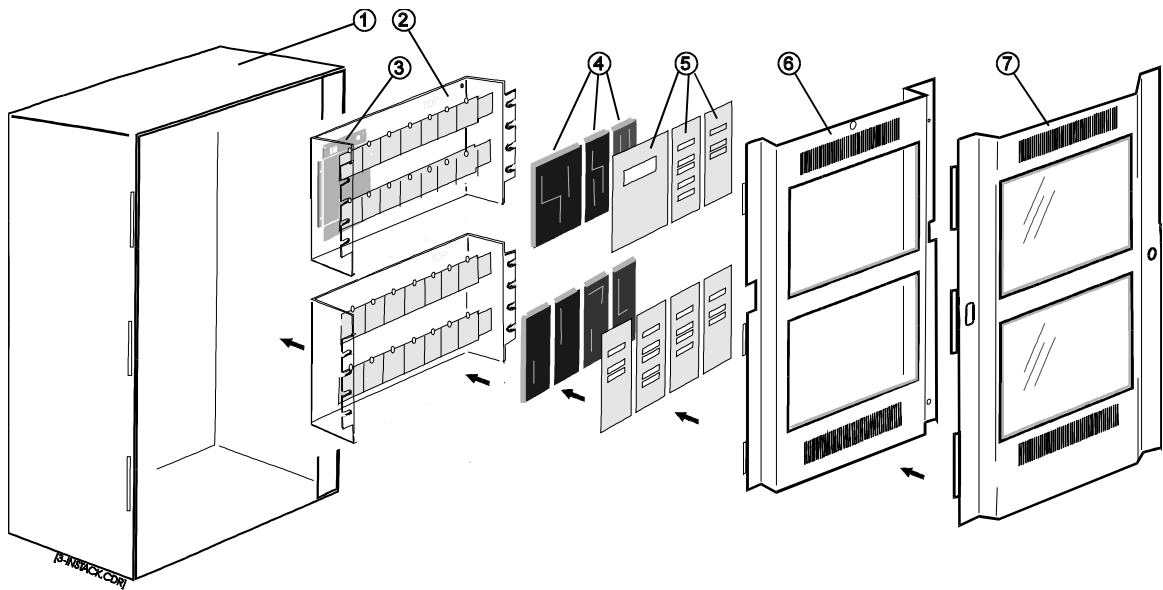

Figure 1-1: Exploded CAB series cabinet equipment installation
The EST3 system is assembled in layers as shown in Figure 1-1. The cabinet (1) houses all the system components. A variety of cabinets are available for as few as 5 and as many as 21 modules. A CAB14 cabinet is illustrated in Figure 1-1.